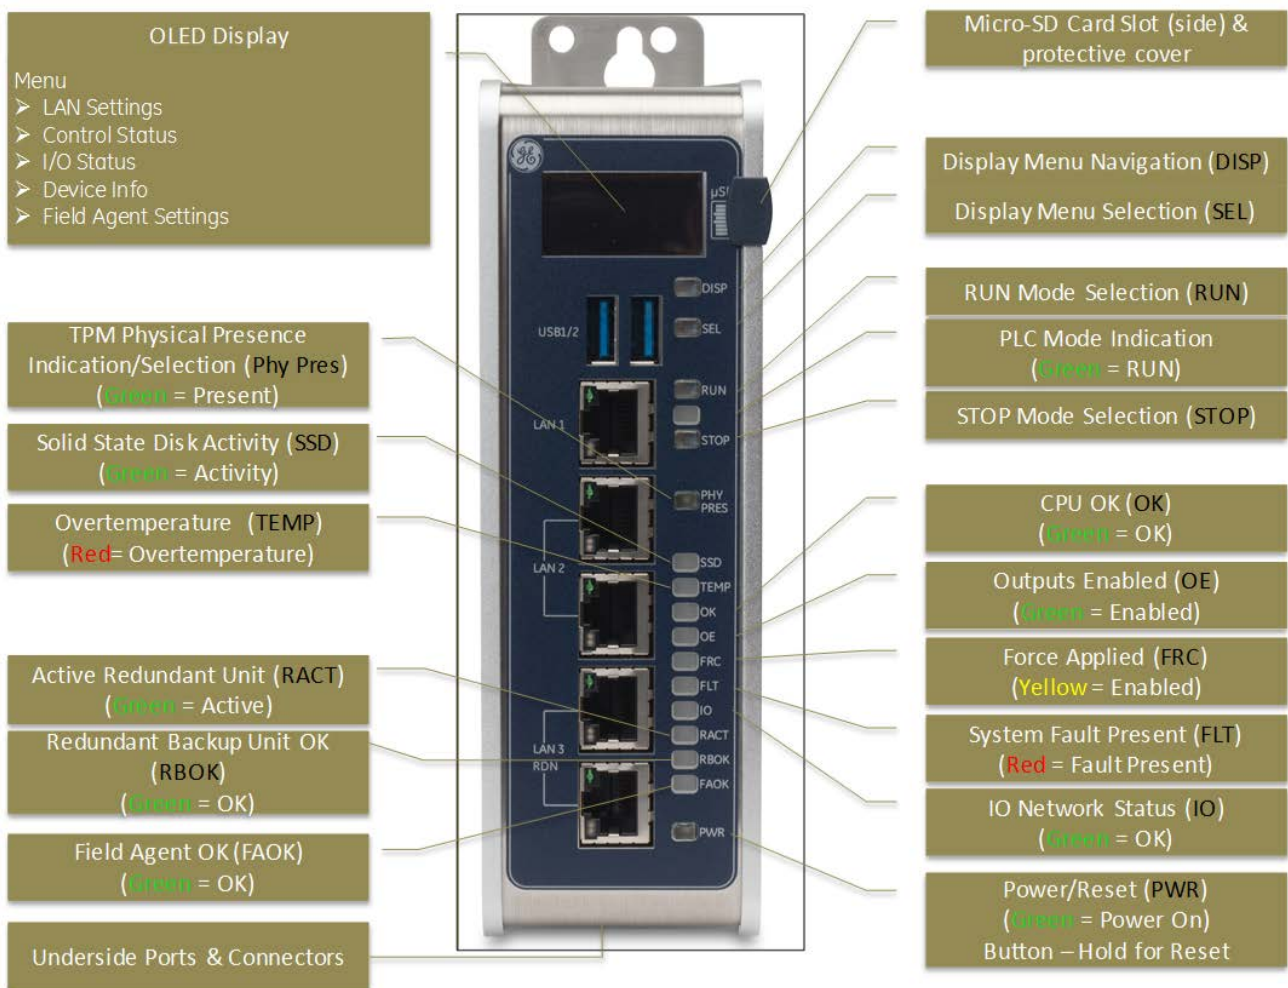

Figure 2: CPE400 Front View and Features
The physical features of the CPE400 are shown in Figure 2 and Figure 3.
- Supports four independent 10/100/1000 Ethernet LANs. Three are located on the front panel, as shown in Figure 2. LAN1 attaches via the upper, dedicated RJ45 connector. LAN2 and LAN333 each attach via a pair of internally-switched RJ45 connectors. The fourth LAN, labeled EFA (Embedded Field Agent), is an RJ45 port located on the underside (Figure 3), and is a dedicated Field Agent port.
The monochrome organic light-emitting diode (OLED) display (Figure 2) is used to display operating system menus. It measures 34.5 x 23 cm and displays 128 dots horizontally and 64 dots vertically. It interacts with the DISP pushbutton, which jogs the cursor from one menu item to the next, and with the SEL pushbutton, which activates the currently indicated menu item for further action.
The Micro SD Card slot is located on the right-hand side of the equipment (Figure 2), level with the OLED display. This port is not functional at time of publication. Once functional, it will support the Removable Data Storage Device features discussed in Section 2.1.8.